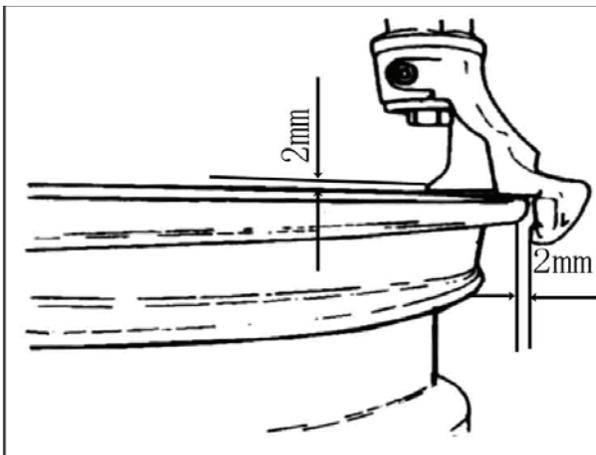

FIG 19
STEP 3: Position the hexangular shaft (Fig 2-3) to the working position to make the dismantling head close to the rim of the wheel. Use the hand wheel (Fig 7-2) to push against the rocker arm and then use the lock handle (Fig 2-12) to lock. The dismantling head will automatically move slightly (Fig 19). The angle of the dismantling head has been designed according to the standard wheel (13"). If handling a larger or smaller wheel, you may need to reposition the head.